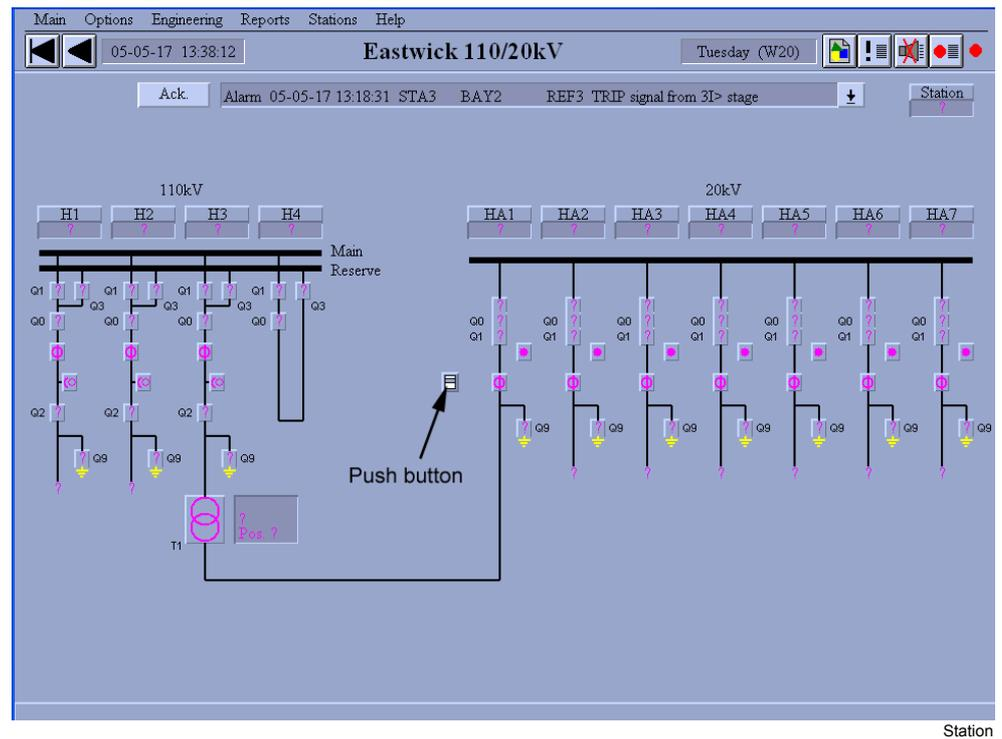

Fig. 4.2.1.-1 Station picture provided with a relay unit push button
- In LIB 510/MicroSCADA, the Relay Setting Tool can be started from the relay symbol (push button) in the station picture (see Fig. 4.2.1.-1).
The relay units are displayed as push buttons in station pictures as seen in Fig. 4.2.1.-1 (“push button”). The relay functions can also be installed to be selected from the control panel of the bay function.
By clicking the push button of any relay unit, the Relay Tool main view opens (see Fig. 4.2.1.-1).